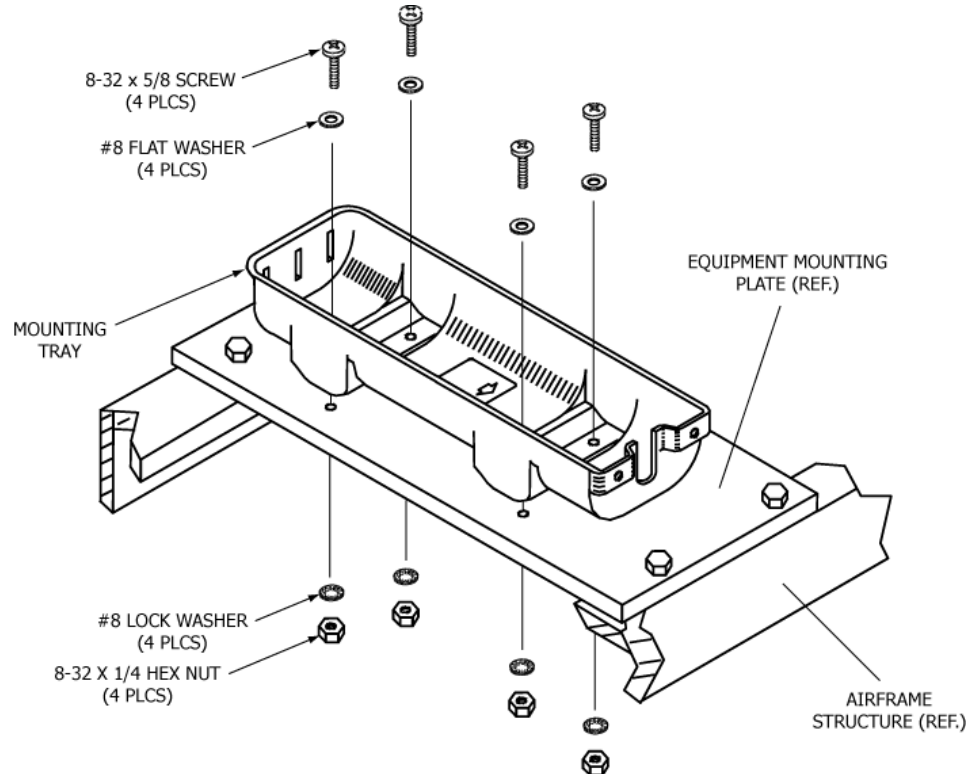

Figure 14 Typical Mounting Tray Installation
- 1) See Figure 14 Typical Mounting Tray Installation.
- 6) Install the mounting tray with the 8-32 x 5/8" SS pan head Phillips screws, flat washers, lock washers, and nuts provided in the installation kit (455-7421), as shown in Figure 14 Typical Mounting Tray Installation. Torque to 12 ±1 lb-in (136 ± 11 N•cm).